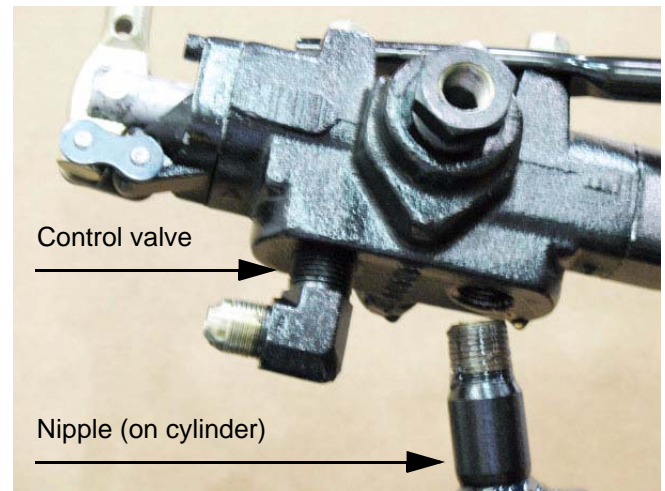

Figure 4.13
- 4.3. o. Install the replacement valve to the log splitter cylinder. Apply thread sealant such as Loctite 545™ to the threads of the nipple on the cylinder before installation. See Figure 4.13.